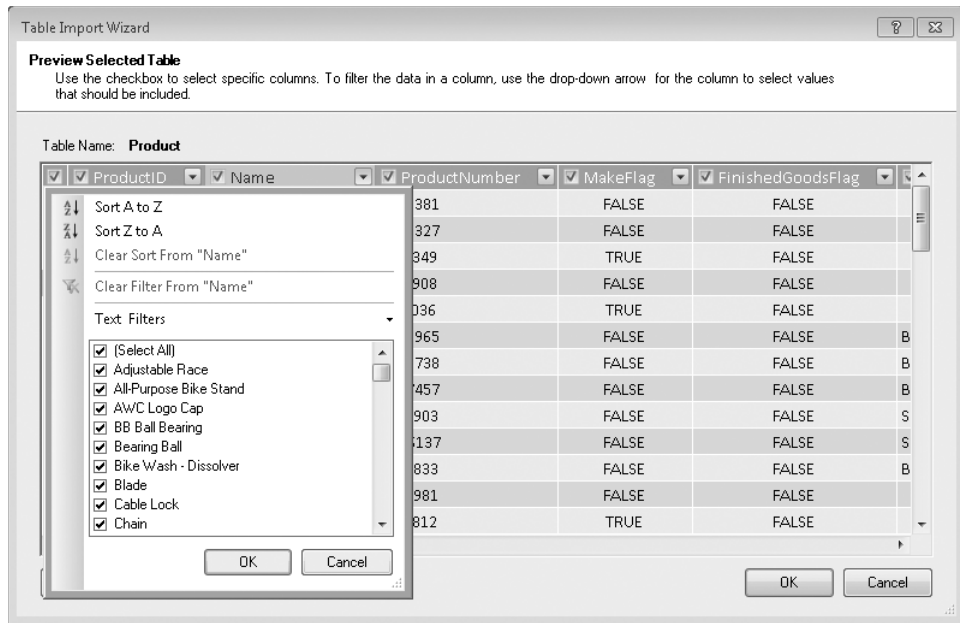

FIGURE 5-6 Data filtering.
- **Data filtering** You can also choose to load only a subset of the rows of the table, specifying a condition that filters out the unwanted rows. In Figure 5-6, you can see the data filtering dialog box open for the Name column.